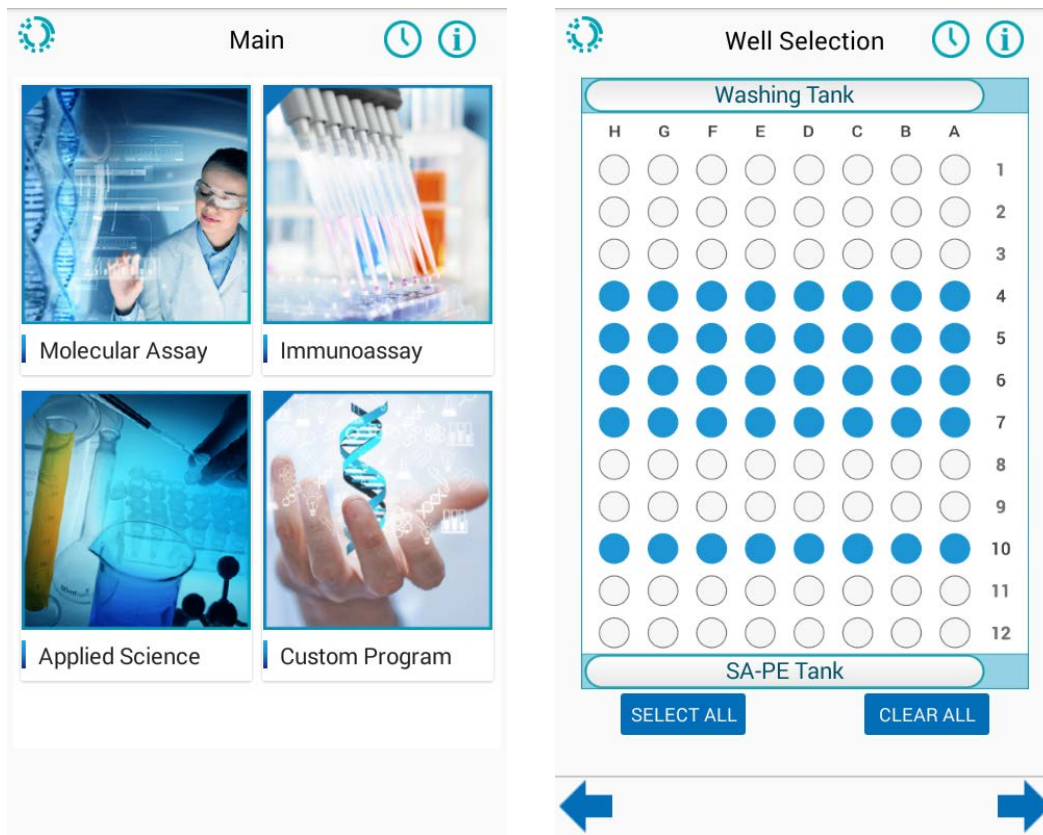

Fig. 19. Custom Program Home Screen and Well Selection
- Step 1. Fig. 19: Click **Custom Program** on the home screen and select desired lanes for processing and click **Next**.